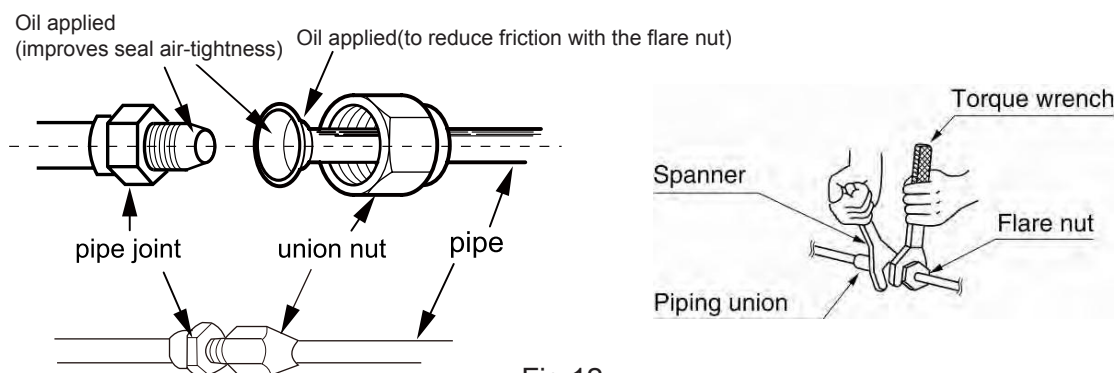

Fig.12
- (1) Align the flared end of the copper pipe with the center of the thread joint. Manually tighten the flared end nut.
- (2) Use torque spanner to tighten the flared end nut until the spanner clatters (Fig.12).